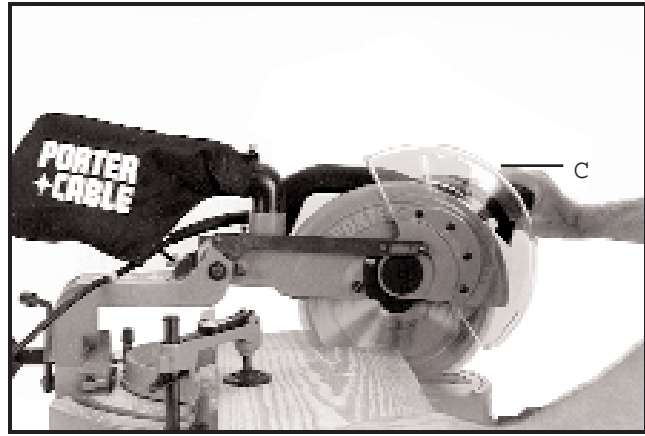

Fig. 40
2. Pull the cuttinghead (C) Fig. 40, toward you, with the cuttinghead in the up position. After the cuttinghead is pulled toward you, compress switch trigger to turn the saw on, as shown.